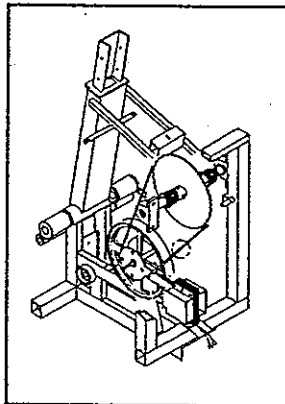

Fig. 13
1. Attach a new chain to the chain wheel through the gear (see Fig. 13).